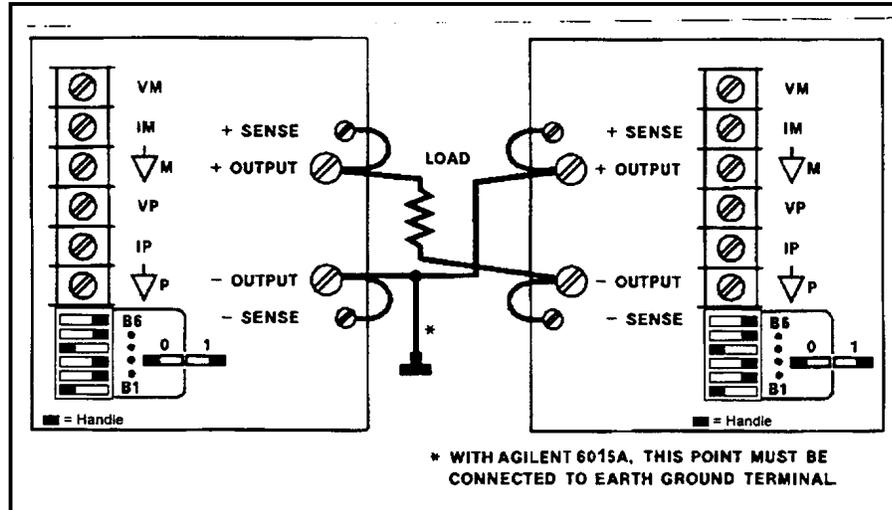

Figure 3-13. Series Operation
**Caution:** It is not recommended that Agilent 6015A supplies be connected in series. If you do so, the common connection between the two supplies must be connected to earth ground (see Figure 3-13).